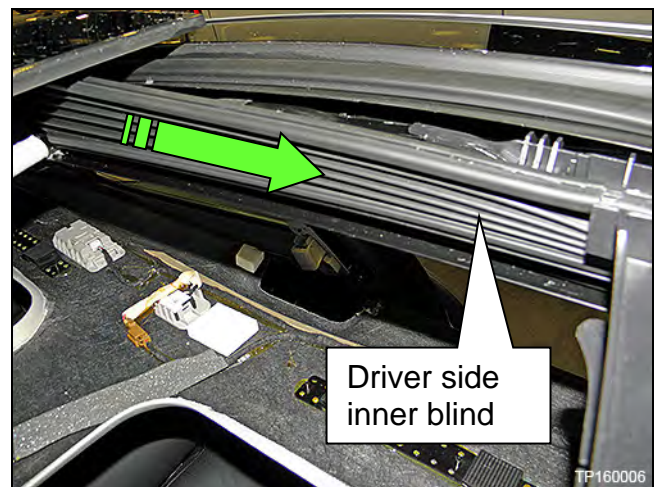

Figure 48
- d. Slide each inner blind off of the Moonroof guides (Figure 48).